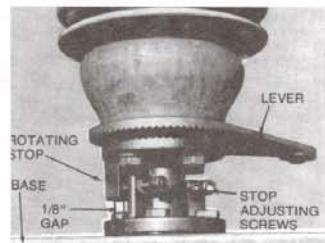

Figure 7 - Rotating insulator bearing.
**H. Adjust switch in open position.** Rotate the center insulator stack to open the single pole. Be sure the open stop on the bearing at the base of the stack is backed off to allow the blade to open the proper amount. For horizontal mounted switches, blades should open 90 degrees; for vertical mounted and underhung mounted switches, the blades will open 70 degrees. Adjustment of the blade stop for 90 degrees opening is shown in Figure 5a. For 70 degree blade opening, adjust as shown in Figure 5b. Use stop bolt at the end of the blade (Figure 6) to adjust the blade opening until it is level as shown in Figures 5a or 5b. Set stop at base of rotating insulator to give a  $1/8$  inch gap between the rotating stop and the stop adjusting screw when the switch is in the full open position. The closed position blade stop should be set to give the proper closed position of the blade. (See Figure 7.)